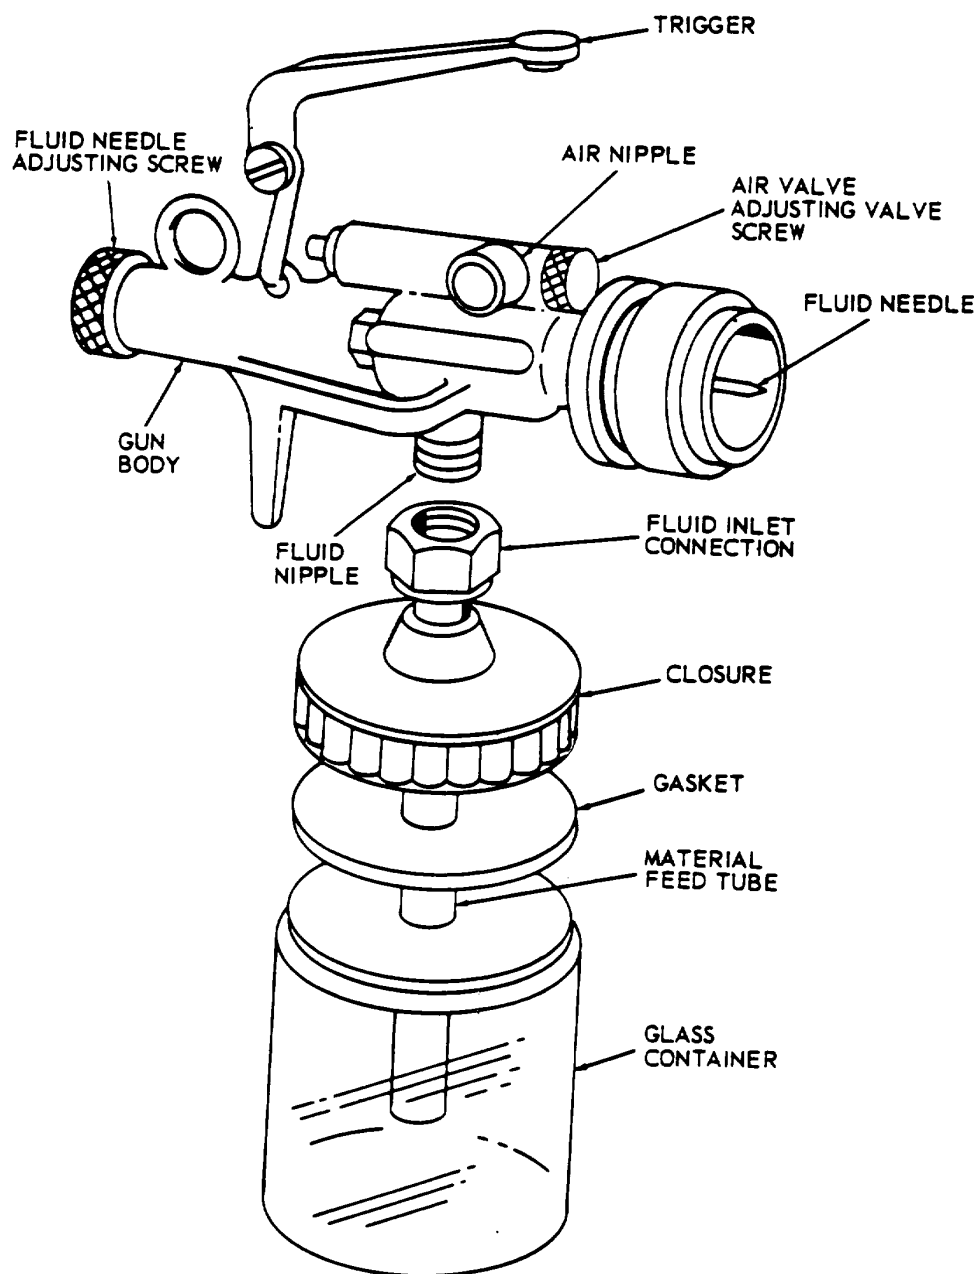

Figure 5-7. Attached-Container Type Spray Gun
(1) In pressure or suction-feed guns, this condition is caused by air leakage into the material line due to:
(2) Conditions which apply only to suction feed are:
- (d) The material feed tube (see figure 5-7) is resting on the bottom of the container.